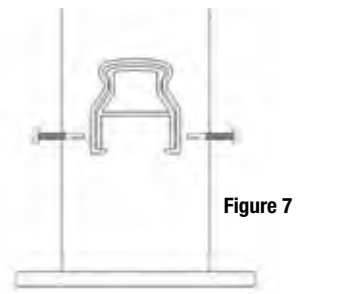

Figure 7
Fasten bottom rail through the middle of the perpendicular sides of the bottom post bracket with (2) #10 x 3/4-in screws (Figure 7).